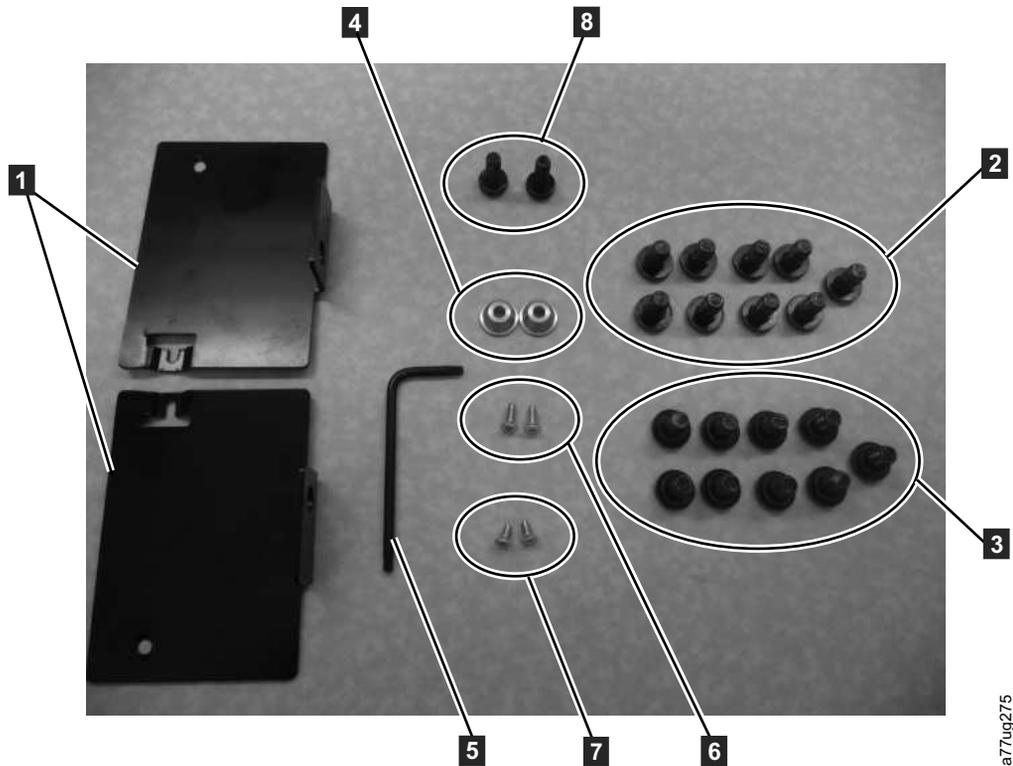

Figure 24. Rack Kit A mounting hardware
1. Verify which rack kit was included in your shipment. Although there are two different rack kits, the steps to install them are the same. After verifying which Rack Kit you received, see Figure 24 on page 43 for the installation steps.
- 2 mounting brackets (**1** in Figure 24)
- 1 Torx wrench (**5** in Figure 24)